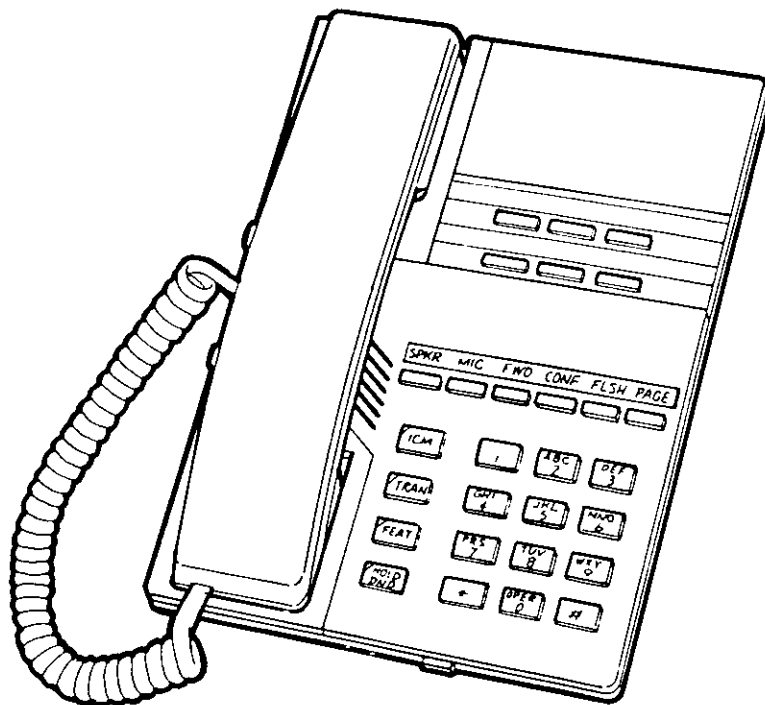

FIGURE 2-4
- Electronic telephone processors control two (2) signal paths, one pair for the voice transmission and the second pair carries data for digital communication between the central microprocessor (CPUHW) in the key service unit and the local station microprocessor.
- b. The Omega-Phone IV ZT-D Series features eight (8) models of electronic stations:
- The ZT-6K electronic key telephone, as illustrated in FIGURE 2-4, features six (6) working keys that can be programmed to meet a user's individual requirements. All other station feature/function keys are non-programmable.